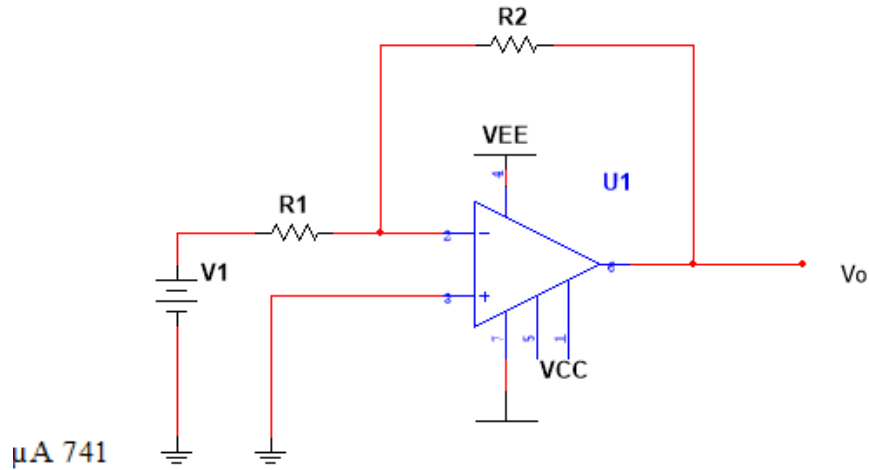

Fig 1.2: Inverting DC amplifier
2. The circuit is set-up as shown in figure 1.2. The supply voltage $\pm V_{CC}$ is set at $\pm 14V$.